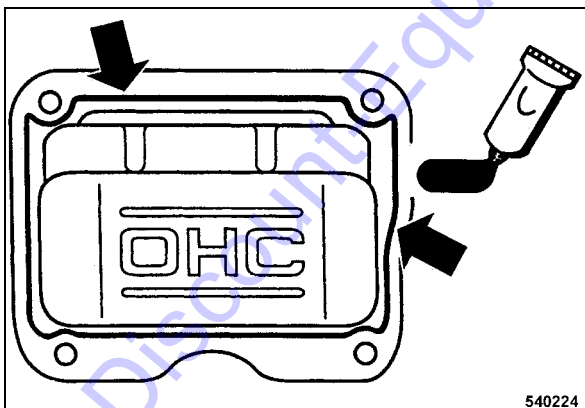

Fig. 55
1.5 to 2.0 mm (0.06 to 0.08 in) to the inside of the cylinder head cover (Fig. 55).